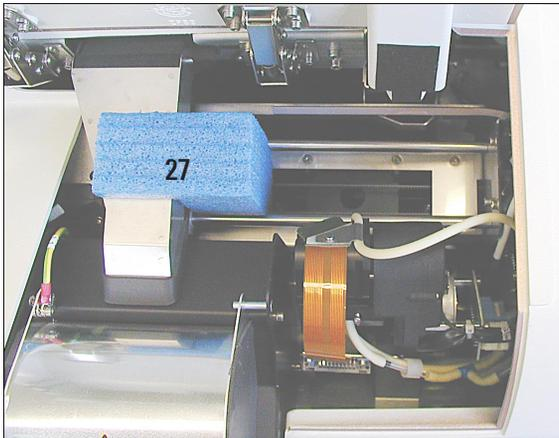

Fig. 10
- Remove the transport safety device (27, Fig. 10) from the instrument.